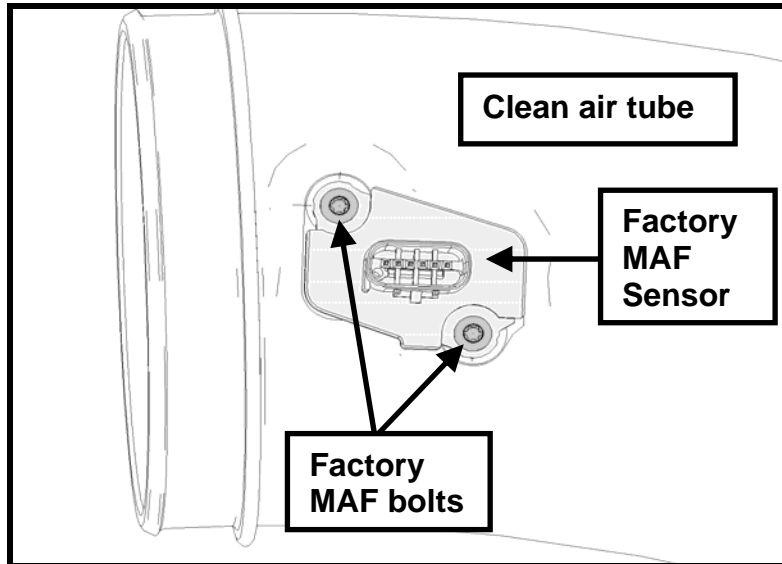

Fig. 28
**STEP 12:** Install the MAF sensor and bolts from the stock airbox into the new clean air tube (R07060101) (See Fig. 28). Torque the bolts to 4 Nm (35 lb in)